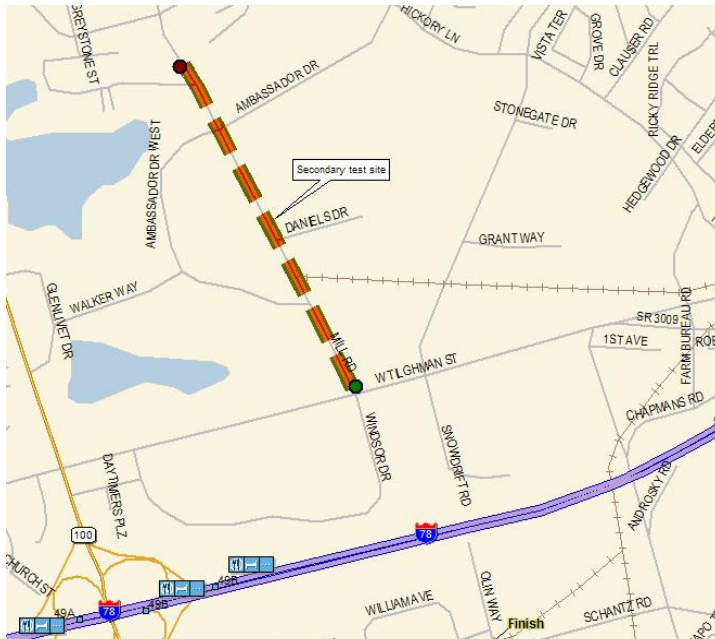
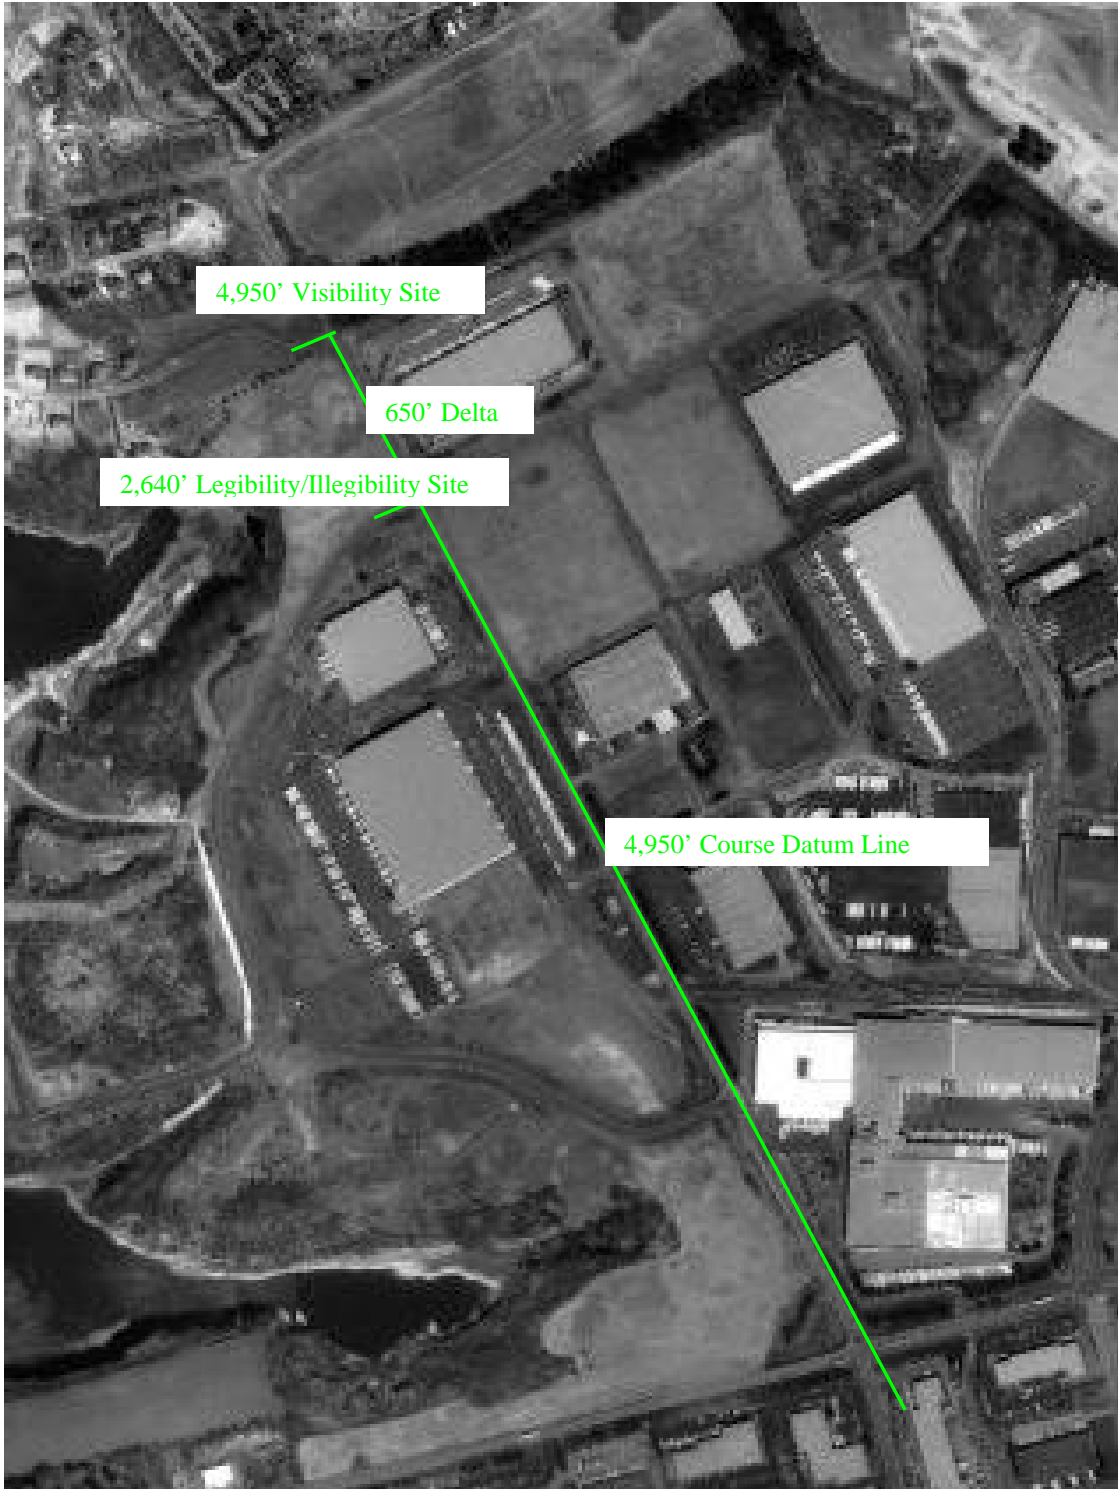

Figure 3A. Course Location
Figure 3C. Course Layout (Aerial View)
Mill Road in Allentown PA was used for the course, Figures 3A – 3C. A course of 4,950 feet was set up on Mill Road by S. Bailey (OR) and C. Owens (ST) using a transit and a measuring wheel, Figure 3C. The course was reviewed by G. Delserro, PE (DES).
For the longer distance sight tests, a straight line of 4,950 feet was measured and surveyed from the intersection of Mill Road & Lochaven Street to the parking lot of 7150 Windsor Drive, Figures 3C and 4. The signs were positioned at the intersection of Mill Road and Lochaven Street facing south and were positioned 25 feet from the center of the road in the west direction. The sight tests were conducted while standing in the parking lot of 7150 Windsor Drive as trees blocked visibility from the sedan. The signs were aimed at the 4,950 ft mark.
For the shorter distance sight tests, the signs were positioned at the intersection of Mill Road & Ambassador Drive facing south and were positioned 25 feet from the center of the road in the west direction, Figure 3C. The sight tests were conducted while driving slowly in a Pontiac Grand AM Sedan. The Arrow Panels were aimed at a mark 200 feet in front of the sign along the center of the road. The Message Signs were aimed at a mark 650 feet in front of the sign along the center of the road.